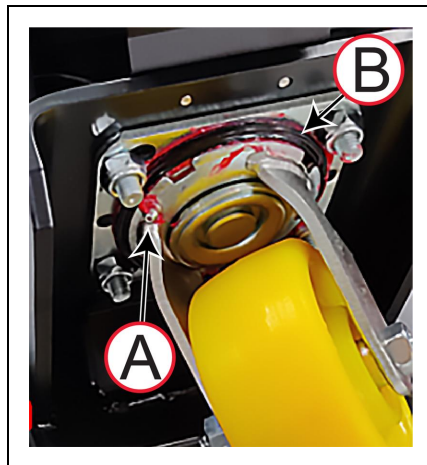

Figure 8-6 Installed and Lubricated Caster O-ring.
6. Use the grease gun to apply only two pumps of grease through the Zerk fitting in the yoke bearing [(A) in Figure 8-6]. Avoid applying grease to the wheel.
7. Lubricate a new O-ring with a small amount of grease and install it as shown by (B) in Figure 8-6.